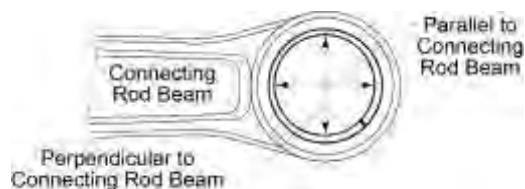

Figure 34
- C. After bushing removal, measure the inside diameter of the connecting rod both parallel and perpendicular to the connecting rod beam (Figure 34). If either inside diameter measurement is not between 1.1833 in. (30.056 mm) and 1.1848 in. (30.094 mm), discard the connecting rod and replace it with a serviceable connecting rod.